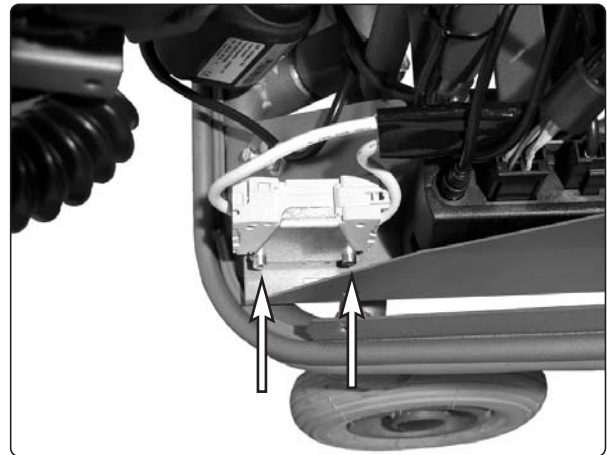

Fig. 53. Circuit breaker, 63A.
5. Remove the circuit breaker by removing the two screws, see fig. 53.
8. Attach the new circuit breaker with the two screws, see fig. 53.